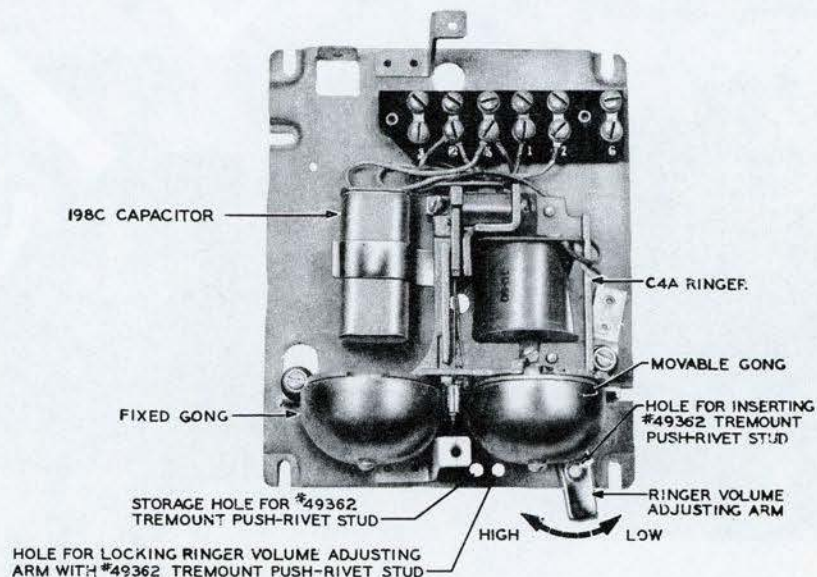

Fig. 8 - 687A Subscriber Set, Internal View
- (a) 687A: For use as an extension ringer (Fig. 8).